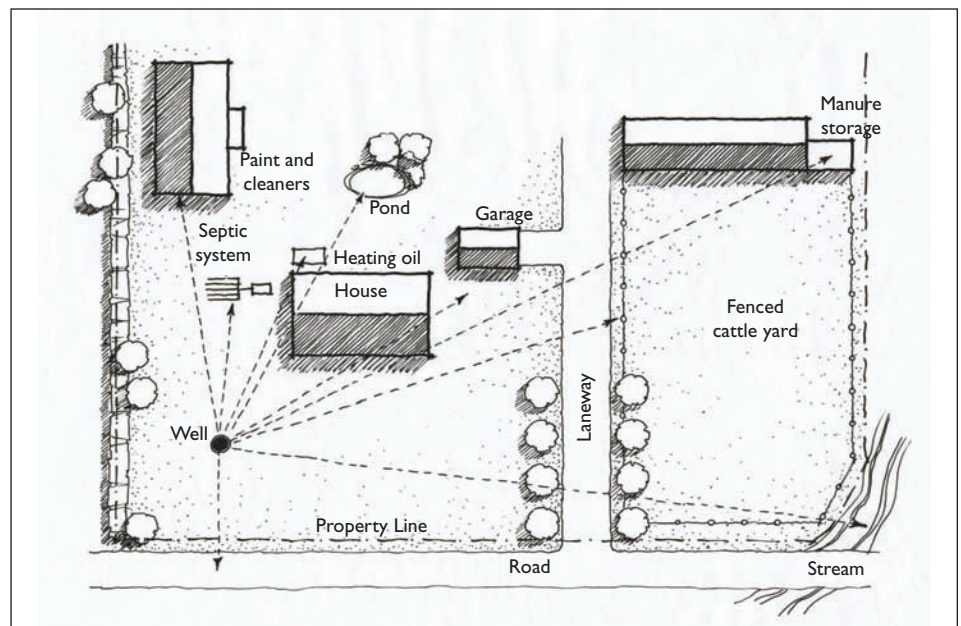

Figure 3: Well Separation Distances
- Location – (Figure 3) A well should be located at least 15 m (50 ft.) from any source of contamination if the casing is watertight to a depth of 6 m